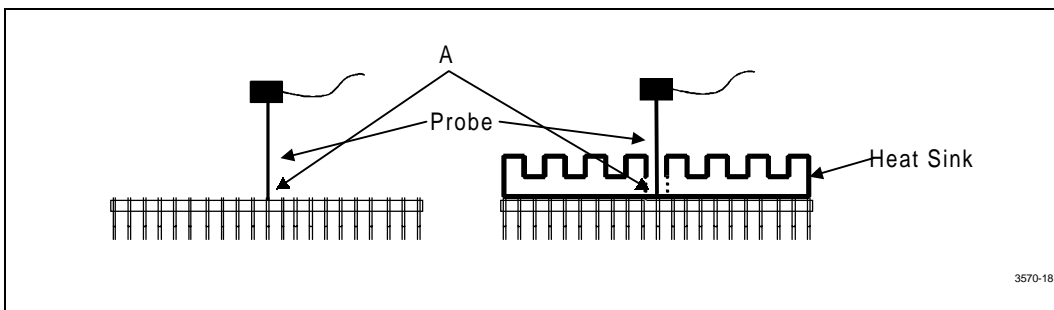
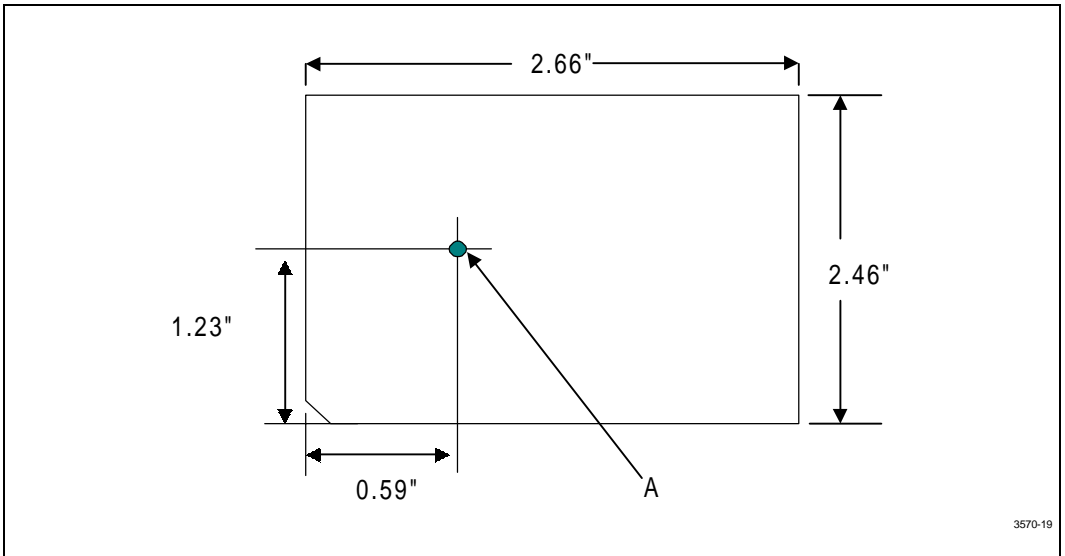

Figure 18. Technique for Measuring  $T_C$  on Processor
Figure 19. Location for  $T_C$  Measurement on Back Plate (not to scale)
To verify that the proper  $T_C$  is maintained, it should be measured at the top of the package on the heat spreader (package side, opposite of the pins). The measurement is made in the same way with or without a heat sink attached. When a heat sink is attached, a hole (smaller than .150" in diameter) should be drilled through the heat sink to allow probing the package surface. See Figure 18 for an illustration of how to measure  $T_C$ . Figure 19 shows the location to measure  $T_C$ .
- The thermocouple should be attached at a 90° angle as shown in Figure 18.